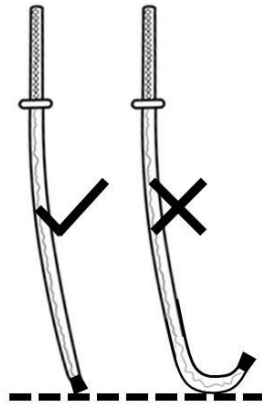

Figure 1. *With the handle vertical, the tip must touch the ground. In this example, the sword on the left is allowed, the sword on the right is not.*
- 6.2.16.1. Blades are to have at most one substantial curve³. Blades that are so curved that the tip does not contact the ground when the grip is perpendicular to the ground (i.e. pointed vertically) are not allowed in SCA Fencing⁴. (See figure 1)